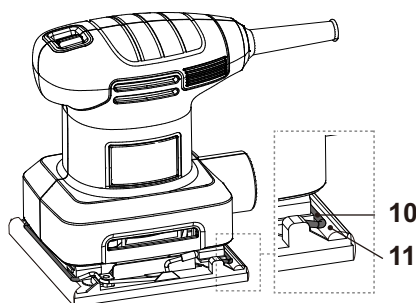

Fig. 7
- > Tighten the sanding paper (11) and fix the other end with the second clamp bar (10) (Fig. 7).